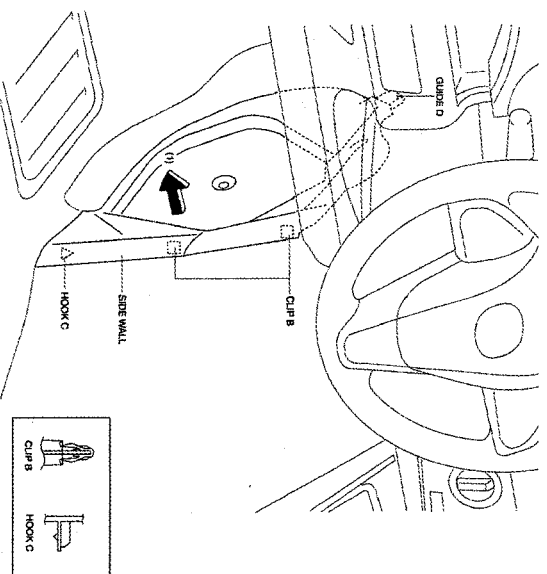

FIGURE 4
- 2.) PULL OUT THE SIDE WALL IN THE DIRECTION OF THE ARROW (1) THEN REMOVE THE CLIPS B AND HOOK C. (SEE FIGURE 4)